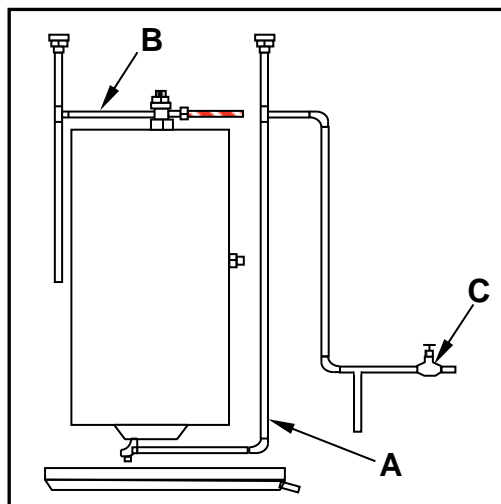

FIGURE 3.2
3.2 FIGURE 3.2 below shows an electrical water-heating system. Study the sketch and answer the questions that follow.